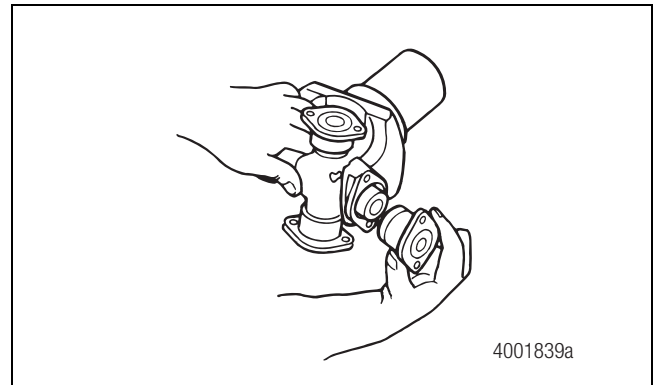

Figure 5.2
4. Remove the second bearing cup. Figure 5.2.